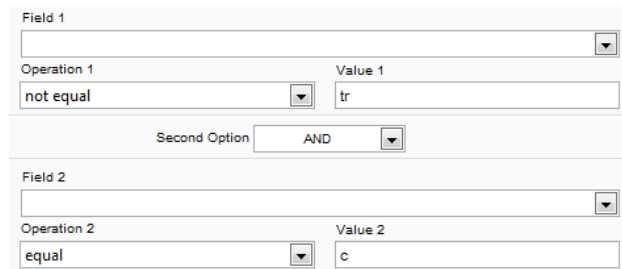

Fig. 12
3. If necessary, select AND/OR and choose the second option of filtering. (Fig. 12).